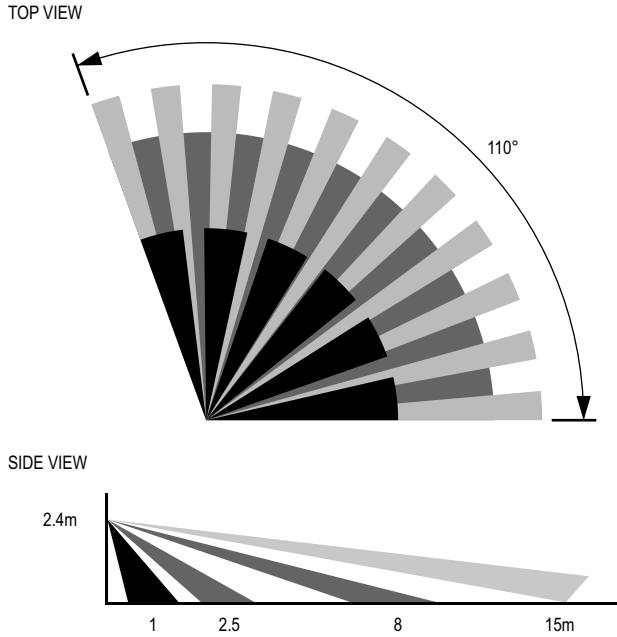

Figure 1: Determining the location of the sensor
- Determine the location of the sensor according to the detection pattern shown in **Figure 1**.
- Refer back to the diagram in Figure 1 and adjust the sensor accordingly.